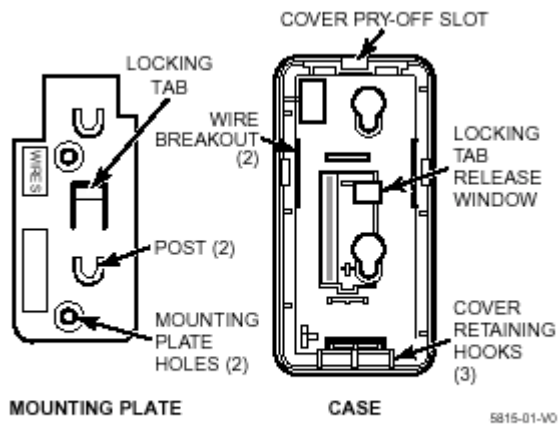

Figure 1. Mounting Plate and Case
1. Remove the transmitter's top cover by inserting the flat blade of a small screwdriver into the pry-off slot at one end of the unit (see Fig. 1 for location), and slightly twisting the blade until the cover disengages.
2. Disengage the attached mounting plate from the case by inserting the blade of a small screwdriver into the locking tab release window (see Figure 1) and pressing it against the locking tab (also shown in Figure 1), while sliding the mounting plate upward along the case back until free.
4. If a wired contact loop is to be used, feed concealed wiring through the slot in the case back, but do not connect to the terminal block yet. For surface wiring entry, two thin "breakout" areas are provided in the case wall (see Figure 1).